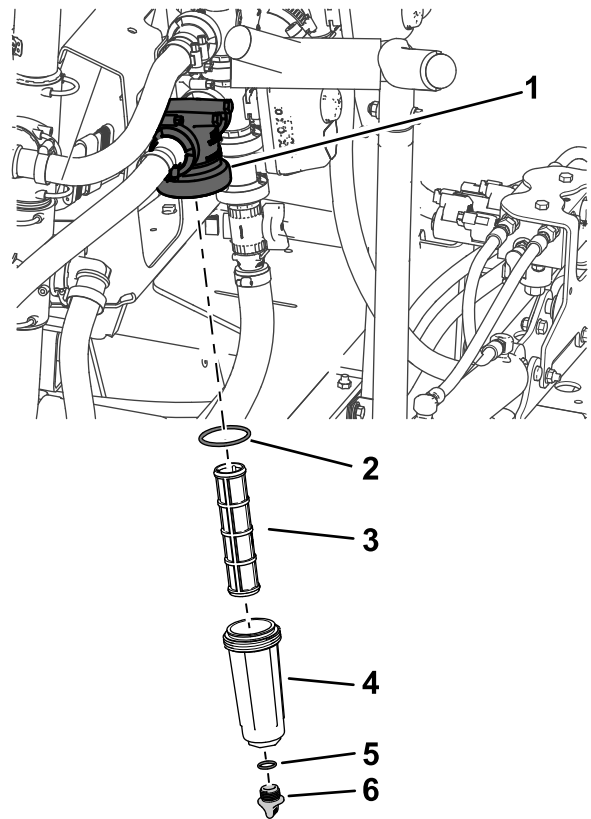

Figure 88
- Align a drain pan under the pressure filter (Figure 88).
- Rotate the drain cap counterclockwise and remove it from the bowl of the pressure filter (Figure 88).
4. Rotate the bowl counterclockwise and remove the filter head (Figure 88).
5. Remove the pressure filter element (Figure 88).
7. Check the gasket for the drain plug (located inside the bowl) and the gasket for bowl (located inside the filter head) for damage and wear (Figure 88).
8. Install the pressure filter element into the filter head (Figure 88).
9. Install the bowl onto the filter head, and tighten by hand (Figure 88).
10. Assemble the drain cap onto the fitting at the bottom of the bowl, and tighten the cap by hand (Figure 88).